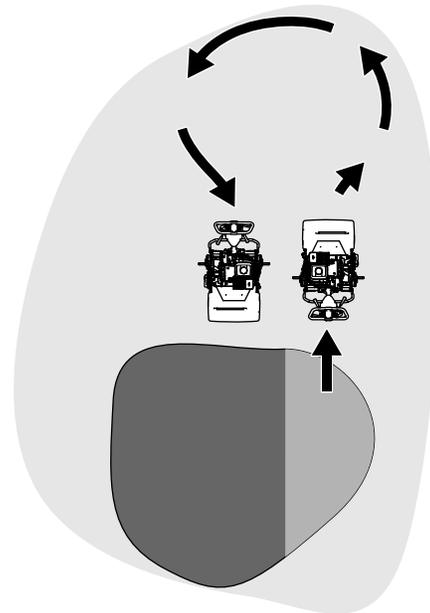

Figure 23
- Turn the machine off the green by raising the cutting reel (pushing the handle down) and performing a tear-shaped turn on the traction drum (Figure 23).
1. Locate the traction-engagement lever on the transmission gearbox (Figure 23).